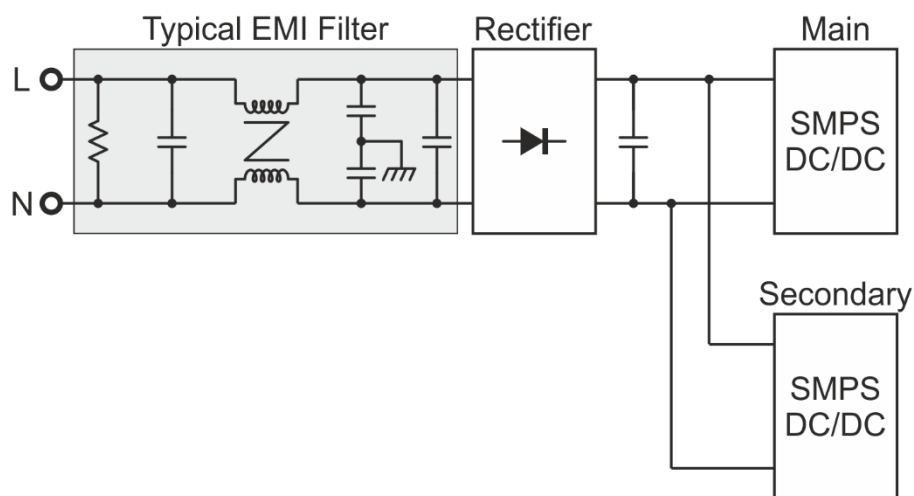
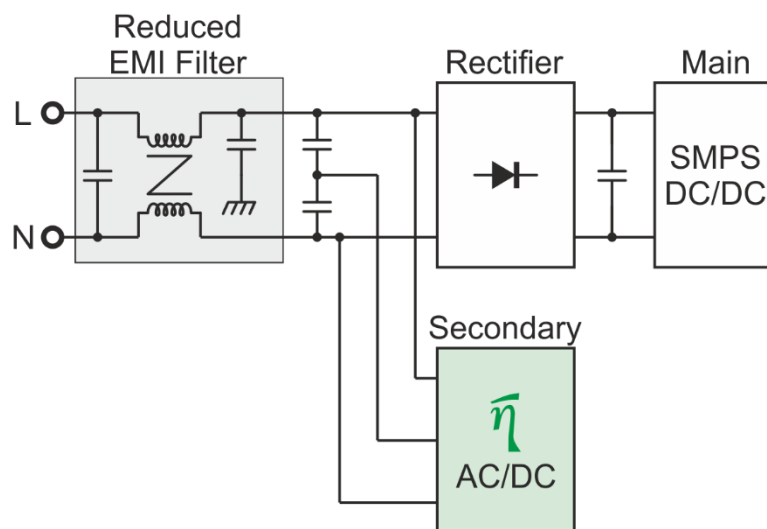

Figure 1
Figure 3
- The first one is to connect the EMI filter between the mains and the AC to DC converter, as shown in Figure 1.
Figure 3 describes an implementation of Eta-Bar's technology as a secondary power supply, corresponding to the first topology (Figure 1).